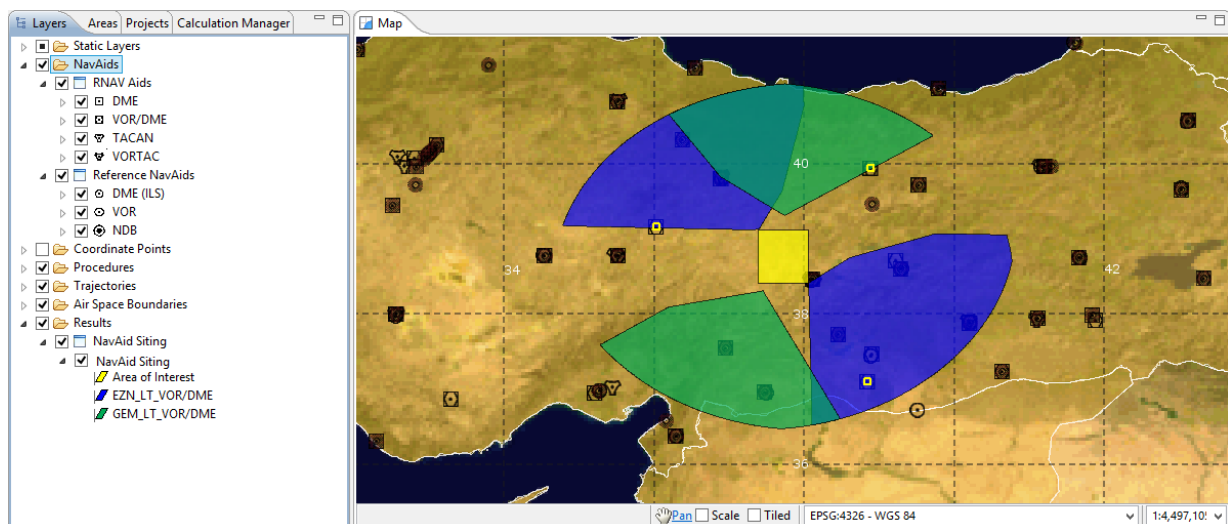

Figure 168: Siting tool result and layer legend
6. The calculation will then be executed and the result displayed over the map as presented below (Figure 168). Note that the selected zone is displayed in yellow color, with the name "Area of Interest". The result for each selected NavAid is displayed with different colors.